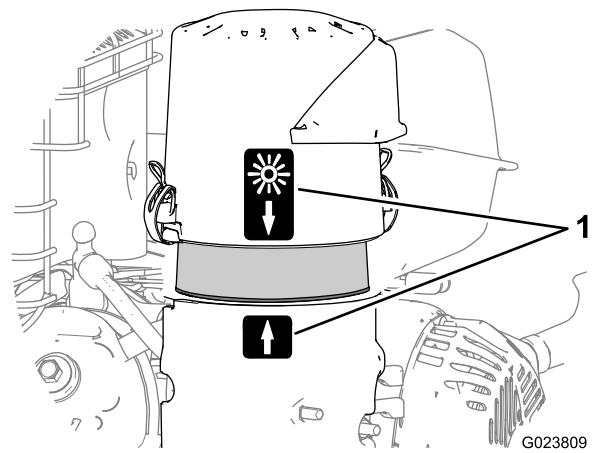

Figure 22
8. Align the arrow decal on the air-cleaner cover and the arrow decal on the base (Figure 22).